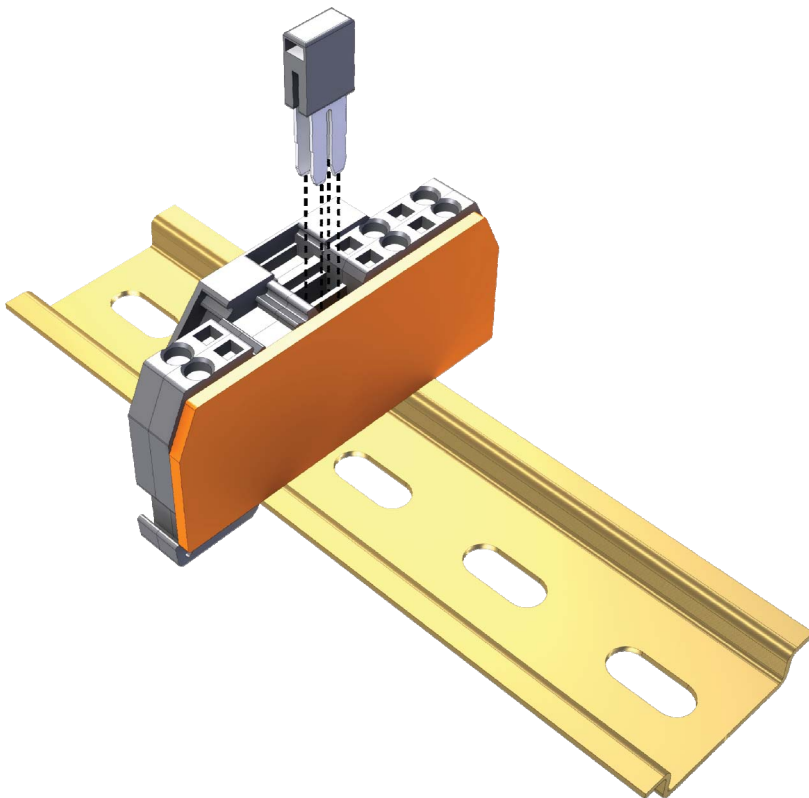

FIGURE 4. 15909 Jumper Installation
2. Insert the 15909 Jumpers in the terminal strips as shown in Figure 4.